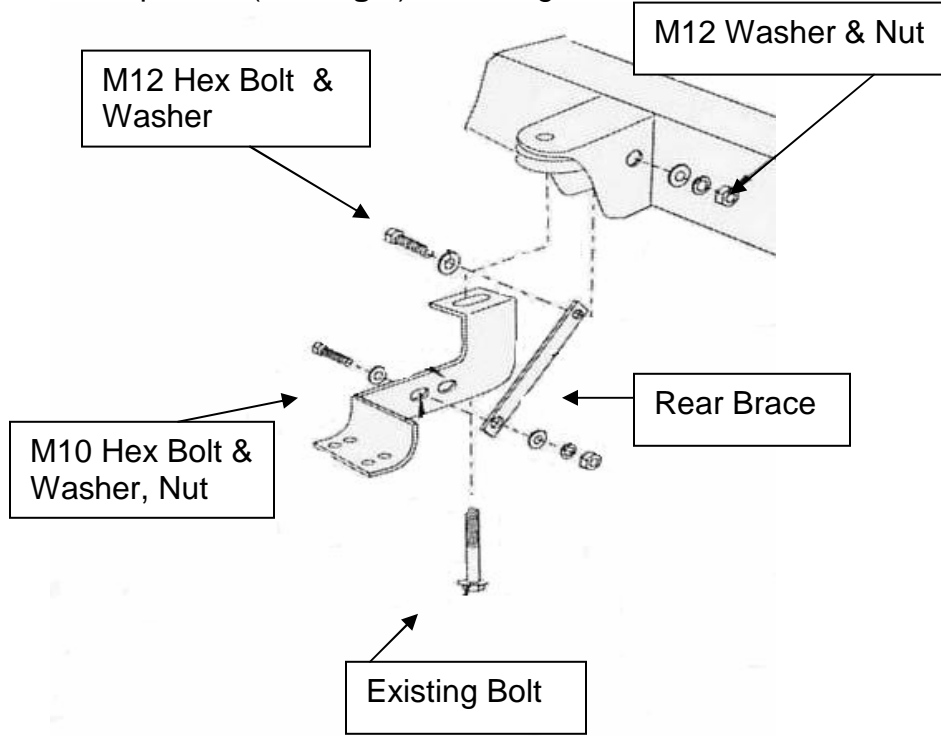
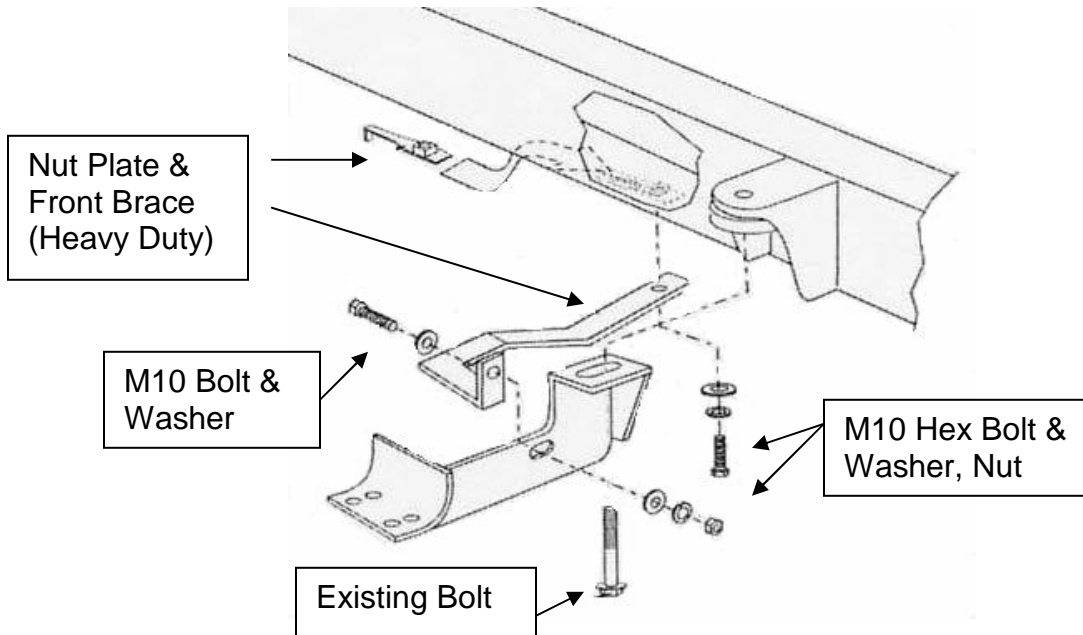

Figure 1. Passenger Side Rear Bracket Shown
Figure 2. Passenger Side Front Bracket Shown
2. Remove existing body mount bolts as shown. **DO NOT DISCARD! (Fig. 1)**
3. Install front and rear brackets as shown (**Fig. 1 & 2**). Hand tighten.
4. Slide front nut plate into slot on the underside of vehicle frame (behind front body mount). Nut to be positioned over hole (**Fig. 2**)
5. Install front and rear support braces as shown. Hand tighten. **Note:** For rear brace, slide rear strap between main bracket and frame (**Fig. 1**). For front brace, use correct brace for Light Duty or Heavy Duty (**Fig. 2 & 3**)